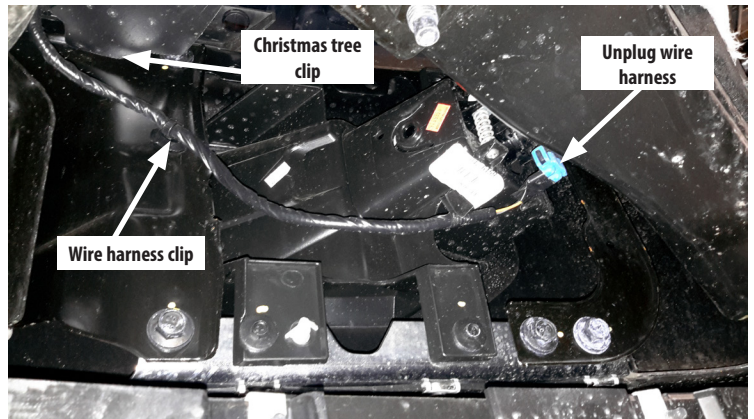

Figure 2
2. From underneath the vehicle, remove the fog lamp plug, harness clip and air dam christmas tree clip to free the bumper. The fog lamp harness will hang freely and will need to be secured with zip ties underneath the vehicle. Figure 2.